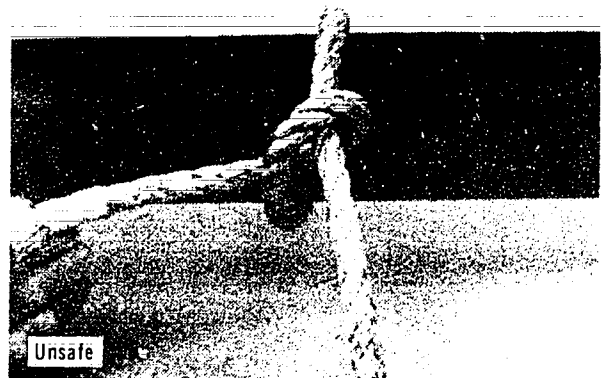

Figure 7-16. Safe and Unsafe Half Hitches
1. The **half hitch** is used to secure the free end of a line to a timber or to another larger line. Figure 7-16 shows unsafe and safe half hitches.